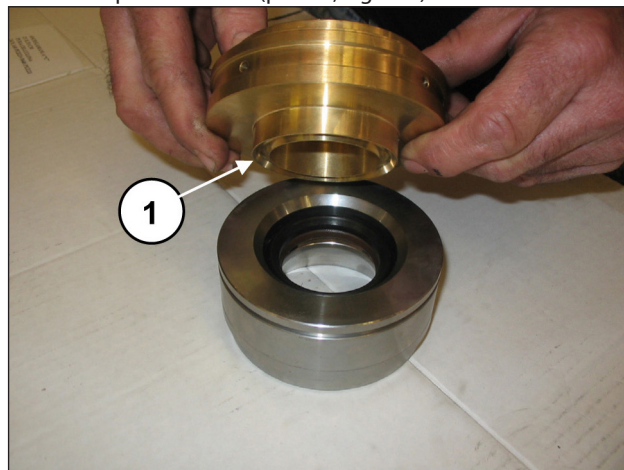
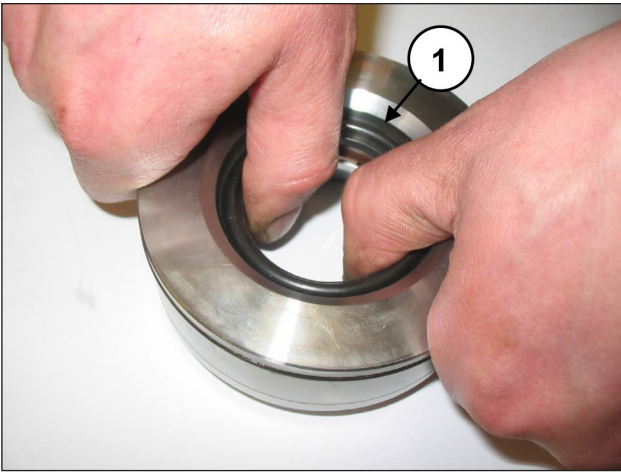

Fig. 121
Fig. 122
Separate the seal support from the liner (pos. ①, Fig. 121) to access the pressure seals (pos. ①, Fig. 122).